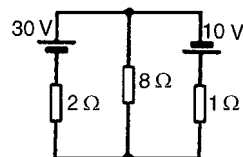

Figure 13.25
- 2 Use the superposition theorem to find the current in the 8Ω resistor of Fig. 13.25